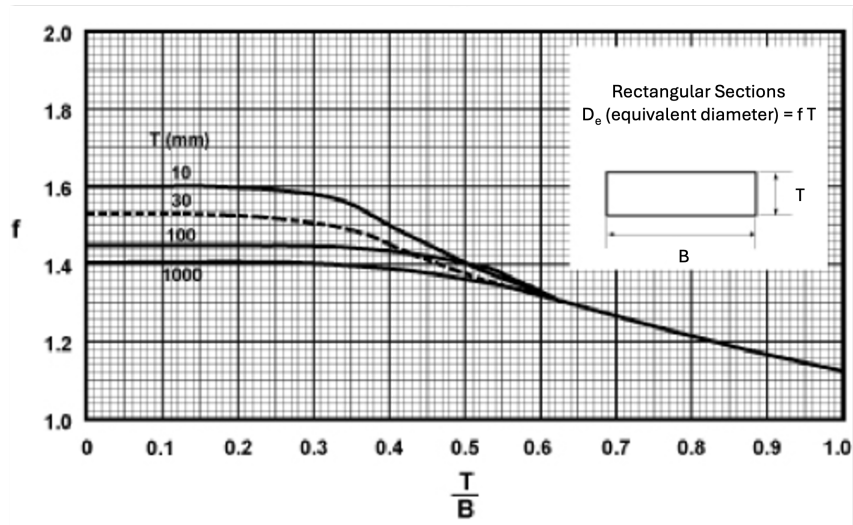
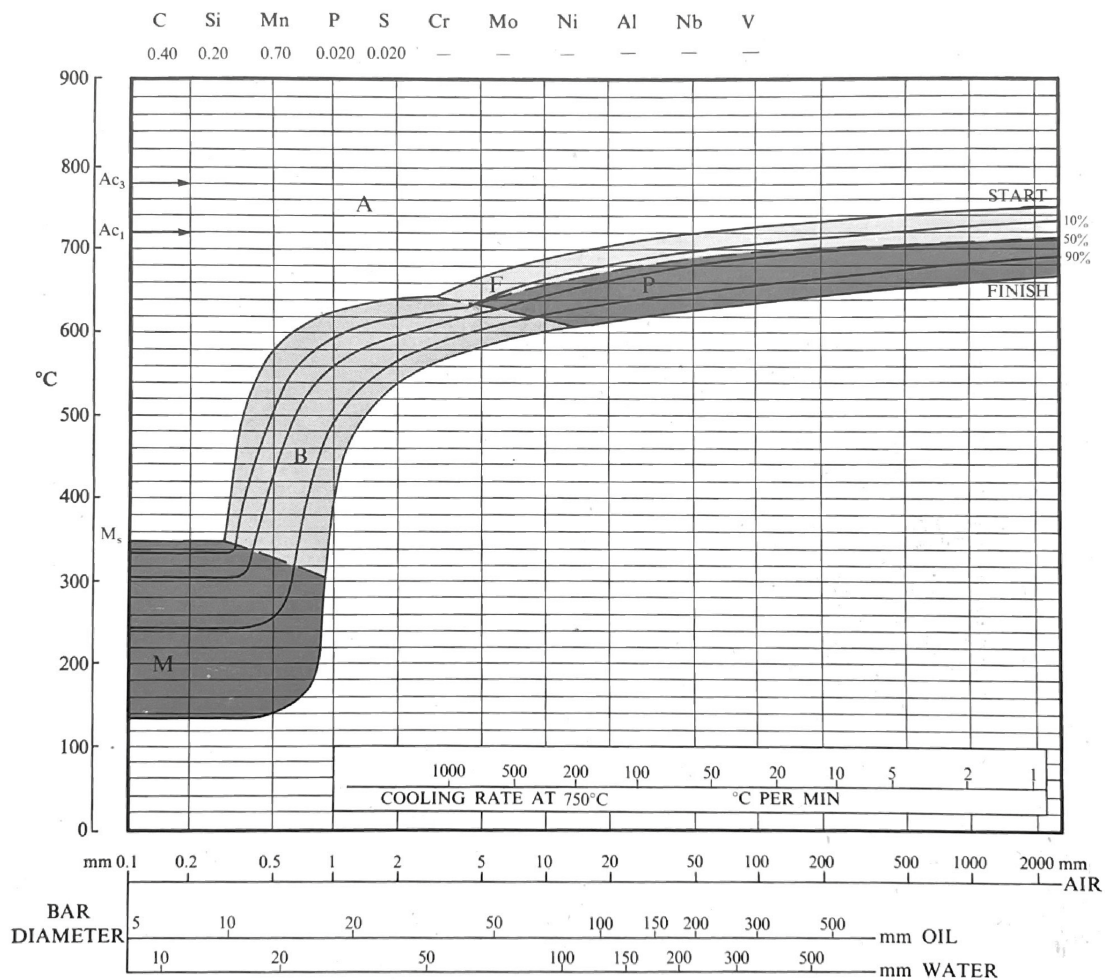

Fig. 2
Fig. 3
- (ii) Consider the metal plates to be 30 mm thick and 150 mm wide. Refer to the table and British steel CCT diagram shown in Fig. 2 and Fig. 3, respectively. Would a quenching in oil from 700°C solve the problem? Why? [30%]